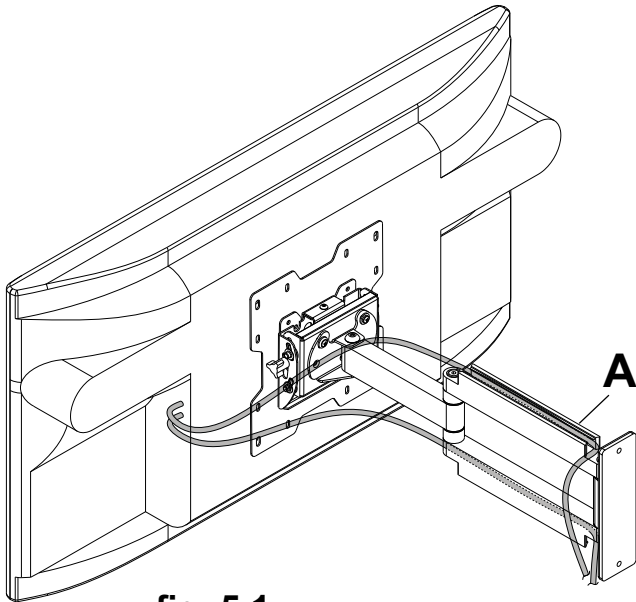

fig. 5.1
- Route cords inside arm slots of wall mount (**A**) as shown in figure 5.1. **Optional:** Run power cord through one side of mount and signal cable(s) through other side in order to avoid interference with the signal.